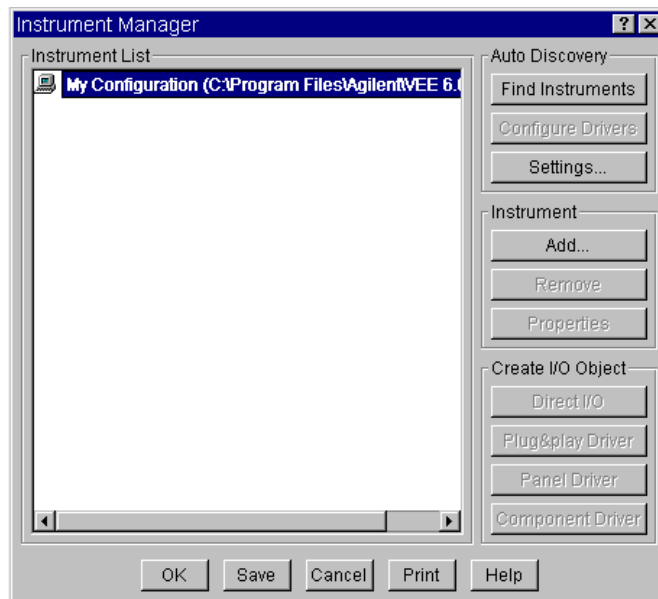

Figure 3-6. The Instrument Manager Box
1. Select I/O ⇒ Instrument Manager. . . . Move the dialog box to the upper-left work area by clicking and dragging its title bar, as shown in Figure 3-6.